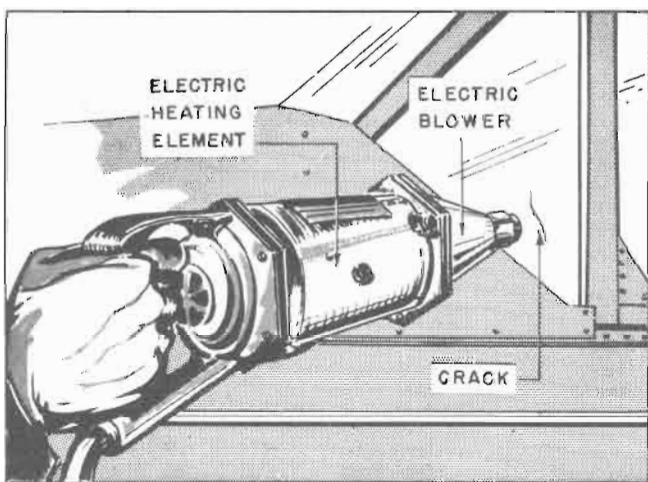

Figure 99 — Applying Hot Air Blast to Plastic Panel
4. ISOLATED CRACKS.—(See figures 99 and 100.)—At the first sign of cracking, a hole  $\frac{1}{8}$ - to  $\frac{3}{16}$ -